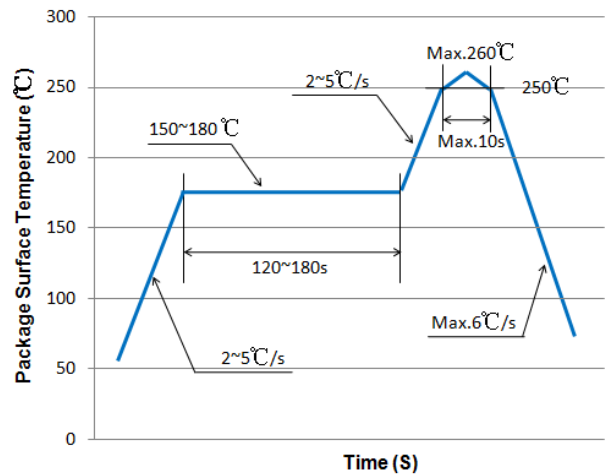

Figure 7: Recommended solder reflow profile
2. Recommended reflow profile for Pb free process is shown in Figure 7. The time duration of peak temperature (260°C) should be limited to 10 seconds.